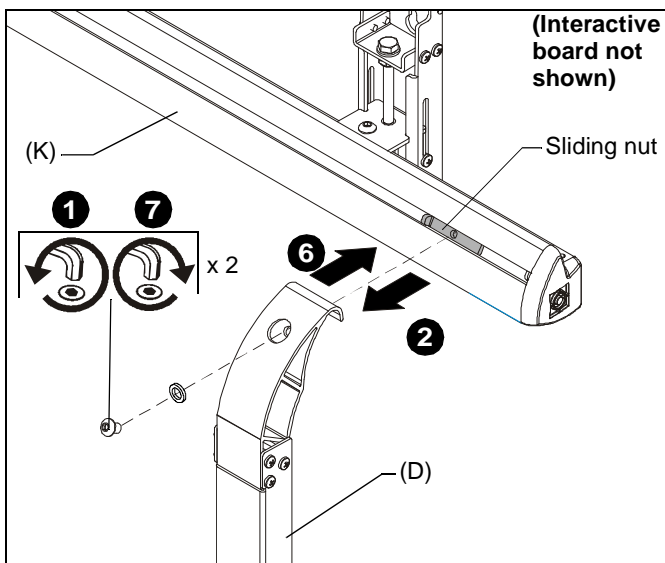

Figure 7
1. Loosen one button head cap screw with spacer at top of each upright assembly (D). (See Figure 7)
2. Unhook whiteboard from wall assembly (K). (See Figure 7)
6. Hook whiteboard with attached uprights onto the wall assembly (K). (See Figure 7)
7. Tighten button head cap screw with spacer (loosened in Step 1) at top of each upright assembly to fasten upright assemblies (D) into place. (See Figure 7)